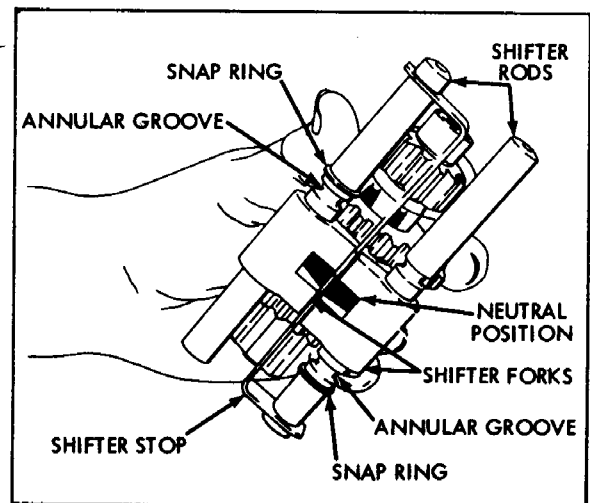

Figure 3-13
4. When the shifter forks are properly assembled to the shifter rods and positioned in neutral, the ends of the notches in the shifter forks are in alignment. (Figure 3-13)
notch with the corresponding notches in the shifter forks and insert the shifter stop. Move the shifter rods together, (Figure 3-13) and insert into the transaxle. Remember to squeeze the ends of the shifter rods to cause the assembly to bind and stay together.